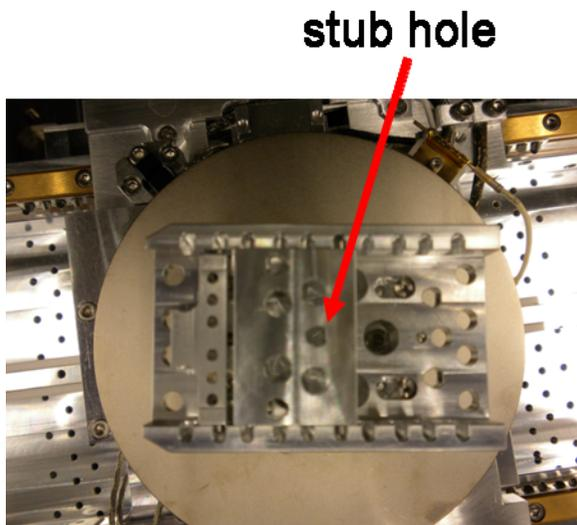
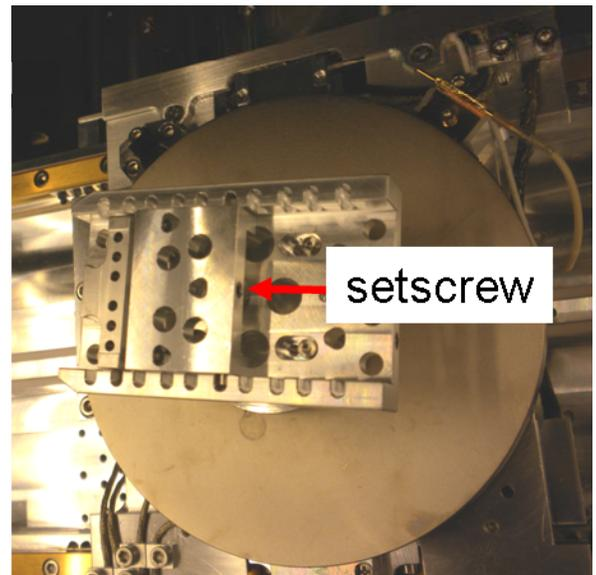

Figure 1. Top view of stub holder.
Figure 2. Angle view of stub holder.
- 2) Move the Helios computer mouse to wake up the Helios computer monitor (in case in went into sleep mode). You should encounter the Helios user interface logged as “supervisor”. In case someone accidentally logged off, please log in using the credentials displayed on a label on the Helios monitor computer. If the user interface is not active, hit the "FeiSystemControl" icon on the desktop of Helios computer to open the microscope server window, hit "Start UI" to start user interface (UI); then log in using the credentials for the supervisor account.
- Figures 1 and 2 show the stub holder mounted on the Helios stage. It has a piece with three holes for stubs. Only use the hole shown in Figure 1. This hole has a corresponding setscrew to hold the stub (see Figure 2).